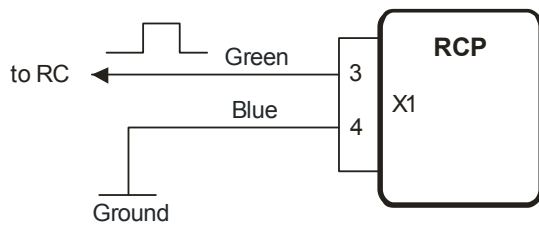
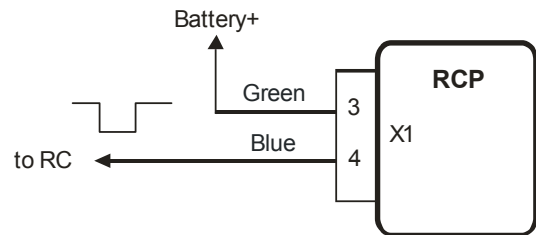

Figure 3
Figure 4
- The fig.3 presents the scheme to turn the heater on by the impulse of positive polarity. The fig.4 presents the scheme to turn the heater on by the impulse of negative polarity.